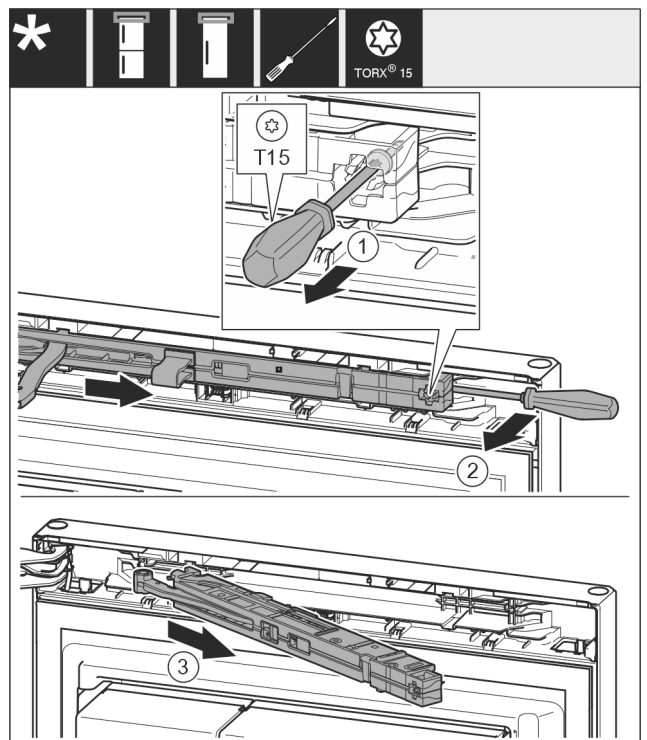

Fig. 11
- ▶ Use screwdriver to loosen the screw Fig. 11 (1) on the closing damper unit by 14 mm.
- ▶ Lever the closing damper unit Fig. 11 (2) forwards on the handle side using a screwdriver.
- ▶ Pull out the closing damper unit Fig. 11 (3).